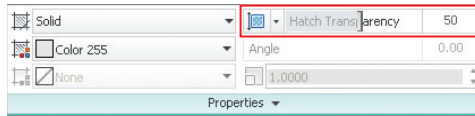

FIGURE 8.7 Overriding layer transparency within the HATCH command
18. Drag the Hatch Transparency slider to the right until the value is approximately 50 (see Figure 8.7).